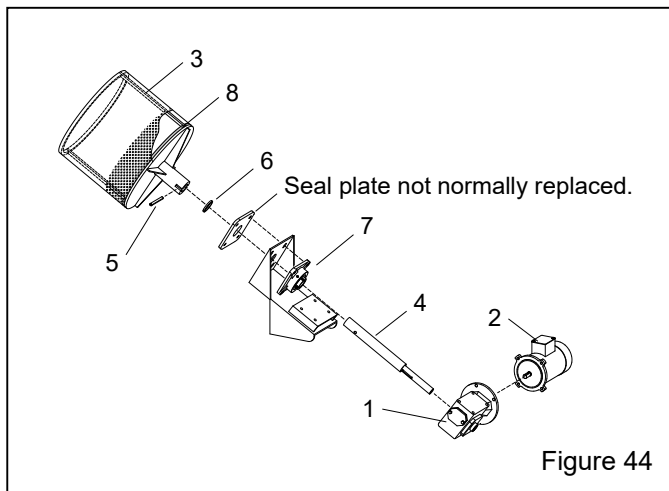

Figure 44
9.4 Basket and Drive Assembly – Figure 44